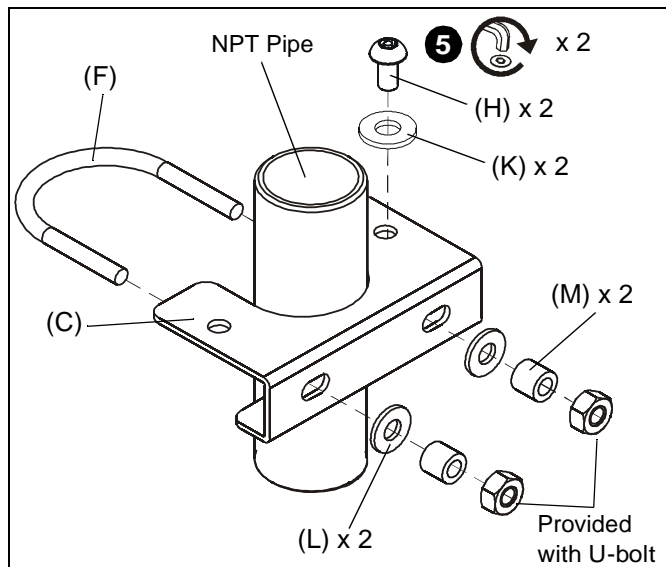

Figure 11
- b. **For 1" NPT** install the clamp at the desired height and secure using the U-bolt, two nylon spacers, two flat washers, and two 5/16-19 hex nuts (provided with U-bolt). (See Figure 11)
5. Secure the projector guard to the clamp using two 1/4-20 x 3/4" buttonhead screws and two flat washers. (See Figure 11)